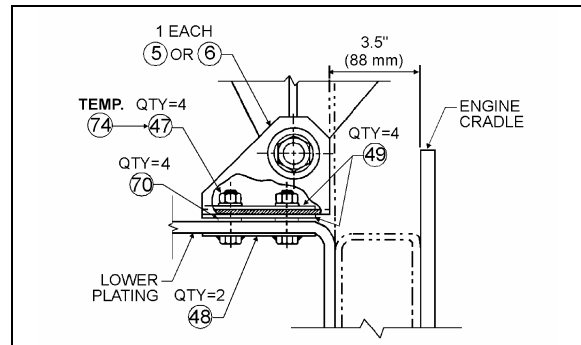

FIGURE 15: ANGLE SUPPORT
1. Install both attachment assembly plates (P/N 051779) (48, Fig. 15) through lower plating and secure with four spring nuts (P/N 500666), (70, Fig. 15). Then install one spacer (P/N 050705), (49, Fig. 15) on each spring nut at both anchoring locations (Fig. 15).
mechanism support. Center with the slots in the floor at anchoring angle support (on some vehicles only). Vertical displacement of the fan clutch is made possible by slots at the base of the fan clutch (on some vehicles only) or by shimming with additional spacers at anchoring locations. Temporarily secure assembly with two nuts (P/N 500709), (74, Fig. 15) at both anchoring locations.
5. Check alignments again (steps 2, 3 & 4) then replace temporary anchoring nuts (P/N 500709) (74, Fig. 15) with four nuts (P/N 500714) (47, Fig. 15) and tighten using a wrench.